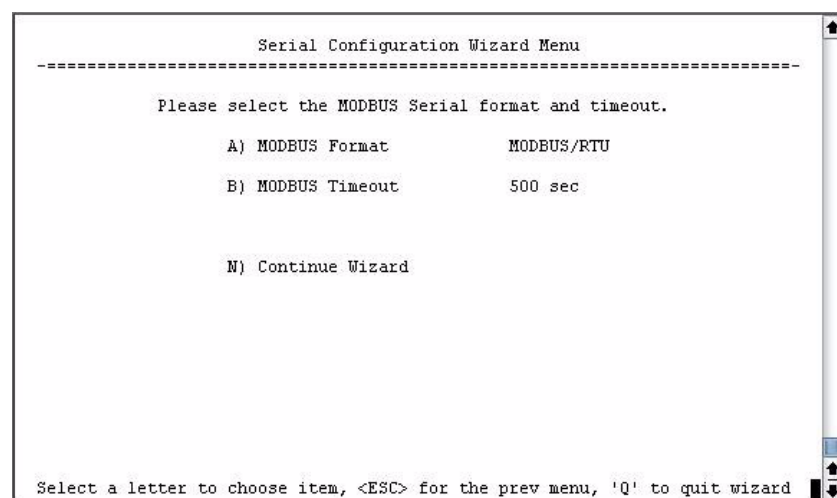

Figure 3-55. Choose Modbus Serial Format and Timeout Value
4. On the next screen (Figure 3-55), press **A** to change the Modbus serial format, then press the space bar to toggle between the available formats (**MODBUS/RTU** or **MODBUS/ASCII**). Press **B** to enter the Modbus serial timeout value in milliseconds. Press **N** to continue the wizard.